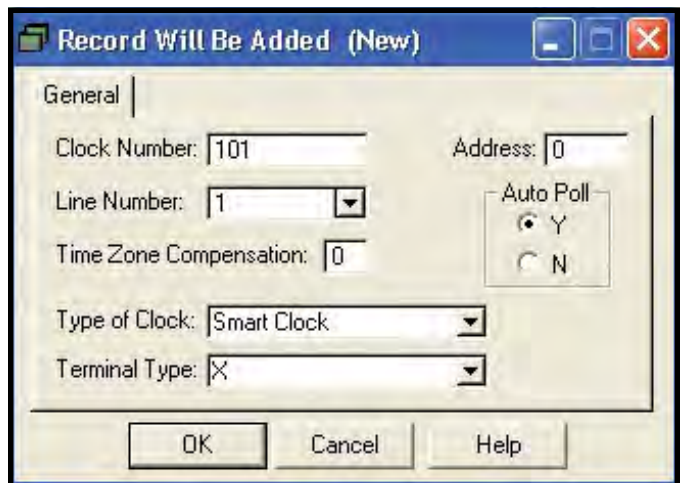

Figure 20. Out-of-the-Box™, Record Will Be Added window
7. The “Record Will Be Added (New)” window will open. The following fields will have to be configured for modem use (see Figure 20):